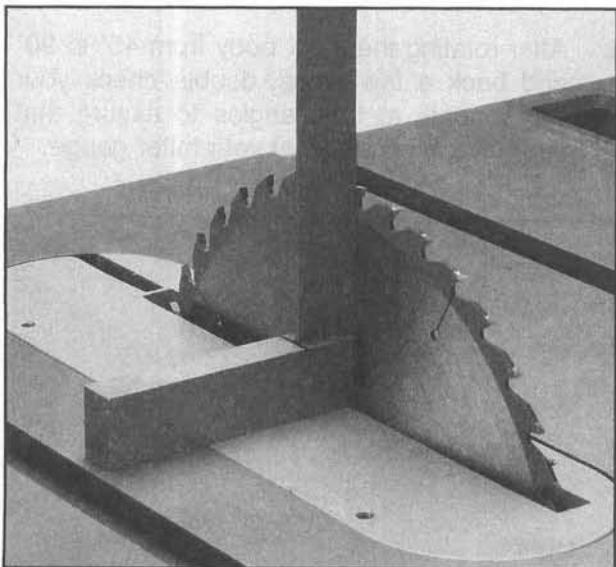

Figure 39.
3. Once your blade is set at 90° to the table, place a machinist's square or speed square against the blade and table surface, as shown in **Figure 39**.